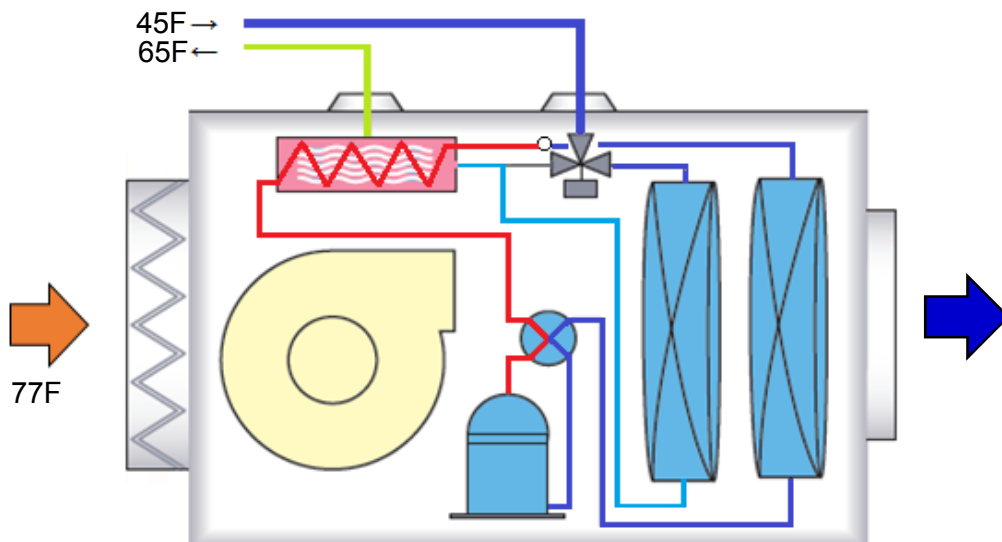

Fig.2 Powerful operation(Cooling)
- As shown in Figure 2, since the fan blows through the chilled water coil and the direct expansion coil, it cool up to about twice capacity of the fan coil operation.